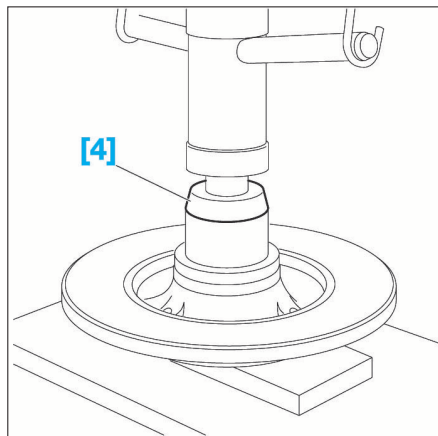

FIG. 42
- Poser l'outil [4] (mandrin Ref. 0615-A1) (Fig.42).